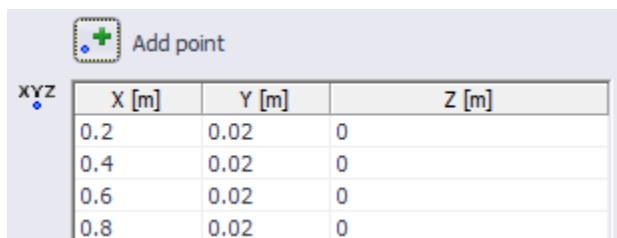
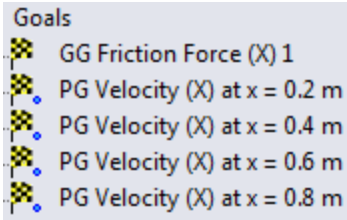
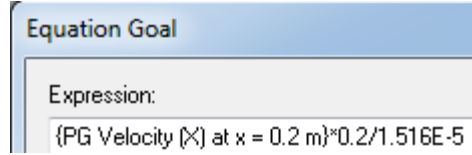

Figure 2.21e) Coordinates for point goals
Figure 2.21f) Renaming the point goals
Figure 2.21g) Entering an equation goal
21. Right click on **Goals** in the **Flow Simulation analysis tree** and select **Insert Global Goals....** Select **Friction Force (X)** as a global goal. Exit the **Global Goals** window. Right click on **Goals** in the **Flow Simulation analysis tree** and select **Insert Point Goals....** Click on the  **Point Coordinates** button. Enter **0.2 m** for X coordinate and **0.02 m** for Y coordinate and click on the **Add Point** button . Add three more points with the coordinates shown in figure 2.21e). Check the **Value** box for **Velocity (X)**. Exit the **Point Goals** window. Rename the goals as shown in figure 2.21f). Right click on **Goals** in the **Flow Simulation analysis tree** and select **Insert Equation Goal....** Click on the **Velocity (X) at x = 0.2 m** goal in the **Flow Simulation analysis tree**, multiply by  $x = 0.2 \text{ m}$  and divide by the kinematic viscosity of air at room temperature ( $\nu = 1.516\text{E-}5 \text{ m}^2/\text{s}$ ) to get an expression for the Reynolds number in the **Equation Goal** window, see figure 2.21g). Select **No units** from the dimensionality drop down menu. Click on the **OK** button to exit the **Equation Goal** window. Rename the equation goal to **Reynolds number at x = 0.2 m**. Insert three more equation goals corresponding to the Reynolds numbers at the three other  $x$  locations. For a definition of the Reynolds number, see page 2-21.